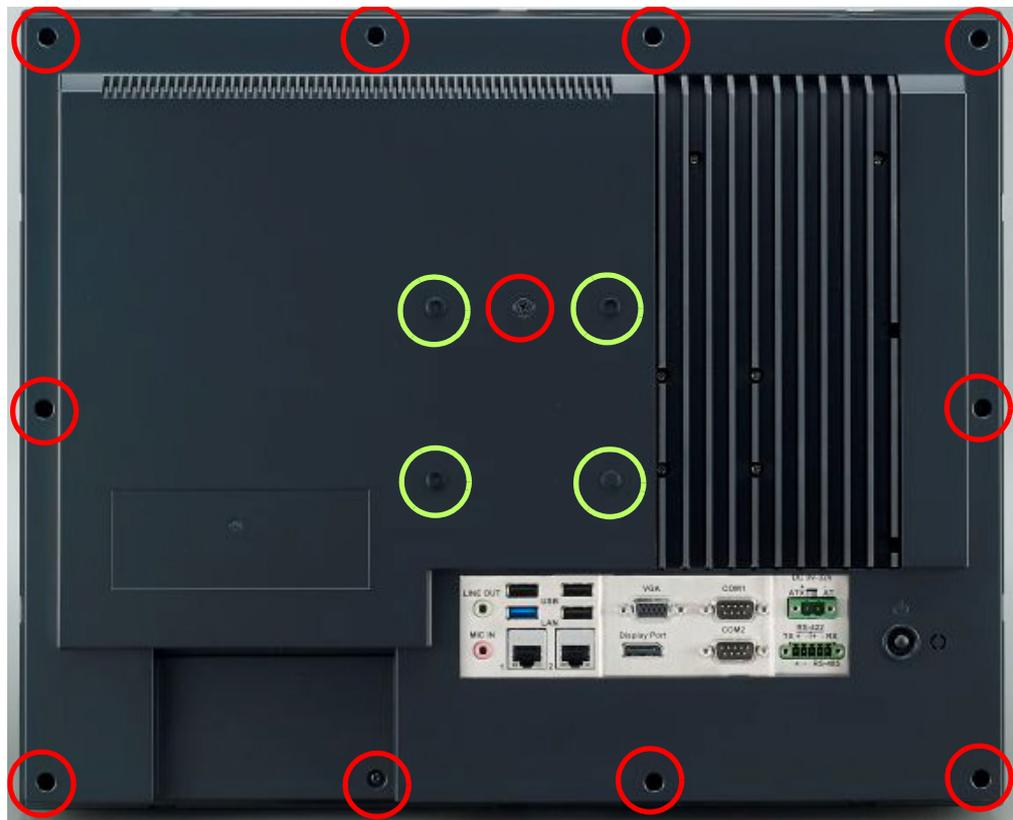

Figure 2.33
1. Remove the eleven screws (red) and remove the four plugs (yellow) from the rear cover. (See Figure 2.33 and 2.34)